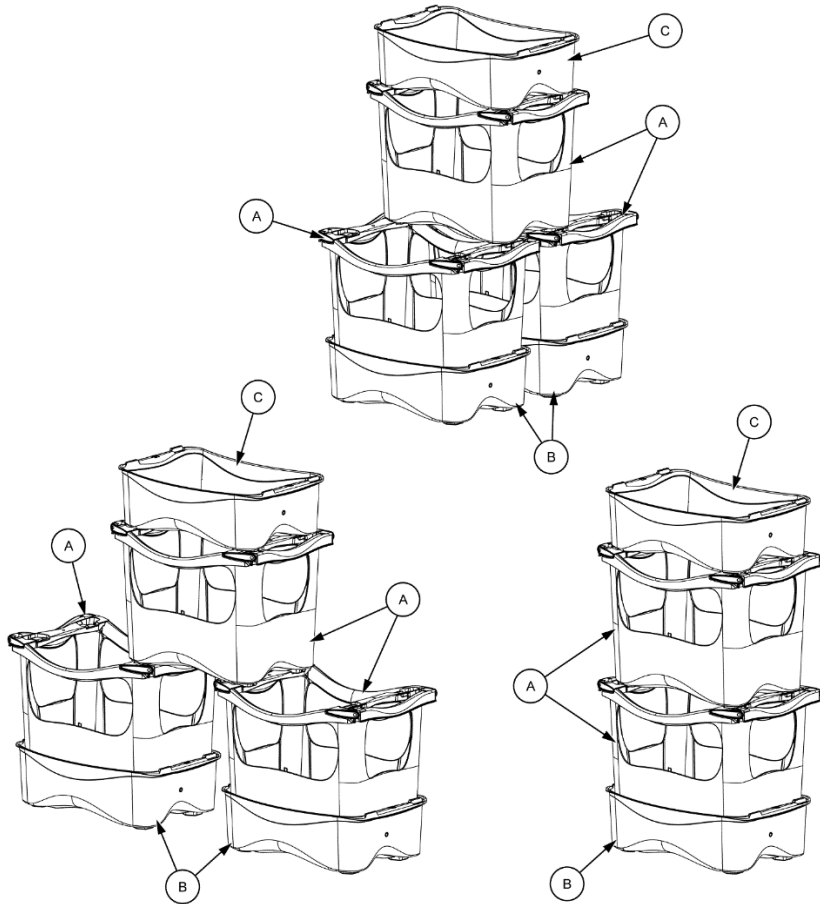

Fig. 10
With the U-greeny Vertical Gardening System, a maximum of two planter boxes (A) and one top planter (C) are stacked on top of each other in the Trivets (B). It is always necessary to start from below with the Trivet (B) or a planter box (A), followed by another planter box (A) or top planter (C). The stack variants are generally freely selectable and flexible to stack. However, a variant shown in Figure 10 is recommended.